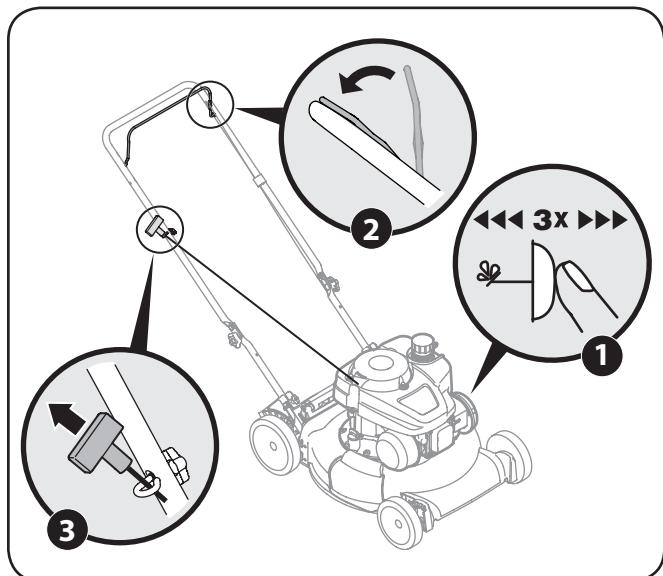

Figure 5-2
- Push primer 3 times. Wait about two seconds between each push. See Figure 5-2. In temperature below 50°F, prime 5 times. After the engine is warmed up, one prime may be needed for all temperatures.
- Pull the recoil starter lightly until resistance is felt, then pull rapidly to overcome compression, prevent kickback, and start the engine. Repeat if necessary. See Figure 5-2.